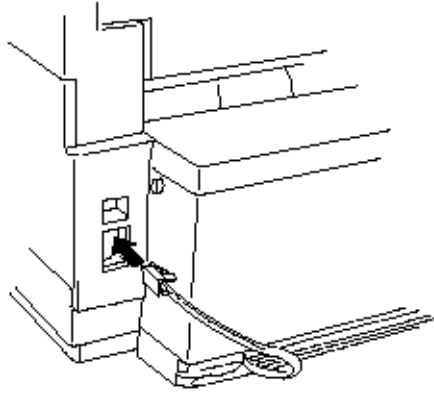

**Fig. C.3.4**
(3) After installing the cradle assembly to the telephone set, fix the screw (Fig. C.3.4.)